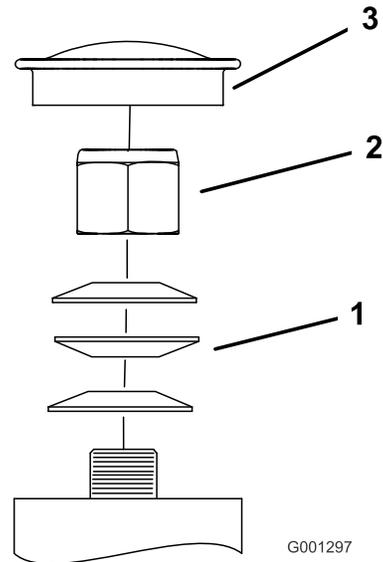

Figure 66
5. Install the dust cap (Figure 66).
3. Remove the dust cap from the caster and tighten the locknut (Figure 66).
4. Tighten the locknut until the spring washers are flat and then back off a 1/4 turn to properly set the pre-load on the bearings (Figure 66).
Important: Make sure that the spring washers are installed correctly as shown in Figure 66.